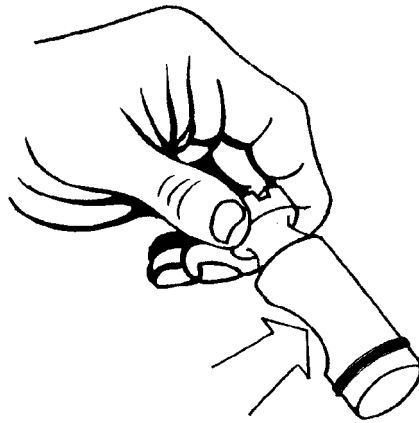

Fig. 42
- d) Remove the elastic pin (pos. 110) by driving down using a metric pin remover, into until it falls inside the housing. (fig. 41). The tool retaining plug (pos. 109) will now be free - check the wear on the retaining plug, the replace O-ring(s) (pos. 113) and the reaction spring (pos. 111) (fig. 42);